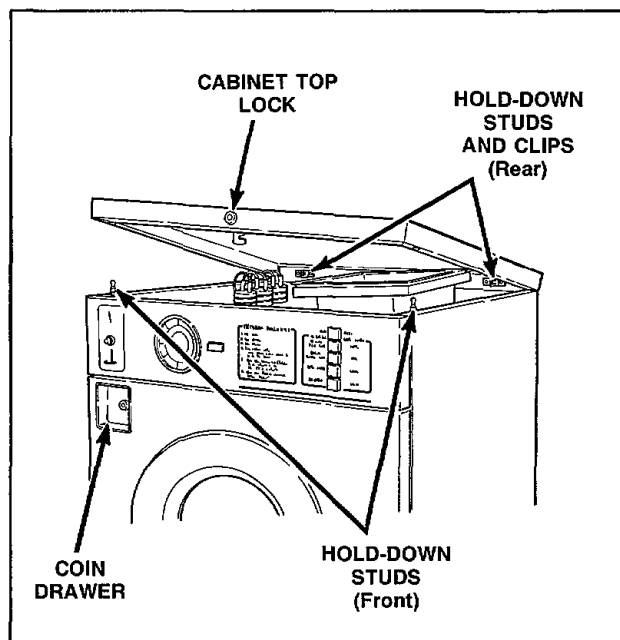

Figure 2
- Insert key into cabinet top lock, turn the key 1/4 turn to the right (clockwise), *Figure 2*.
- Lift up on front of cabinet top to disengage the top from the two cabinet top hold-down studs, *Figure 2*.
- Slide the cabinet top back far enough to disengage the two cabinet top hold-down studs from the clips in the rear cross channel, *Figure 2*. Set cabinet top out of the way.
- Insert key into the cabinet top lock, turn the key 1/4 turn to the right clockwise, *Figure 2*.
channel, *Figure 2*, and set the cabinet top out of the way.
f. Unlock and remove the coin drawer, *Figure 2*.
- e. Insert the key into the cabinet top lock, turn the key 1/4 turn to the right (clockwise), *Figure 2*.
- f. Lift up on front of cabinet top to disengage the top from the two cabinet top hold-down studs, *Figure 2*.
- g. Slide the cabinet top back far enough to disengage the two cabinet top hold-down studs from the two stud clips in the rear cross channel, *Figure 2*, and set the cabinet top out of the way.
- h. Unlock and remove the coin drawer, *Figure 2*.
- b. Insert key into cabinet top lock, turn the key 1/4 turn to the right (clockwise), *Figure 2*.
- c. Lift up on front of cabinet top to disengage the top from the two cabinet top hold-down studs, *Figure 2*.
- d. Slide the cabinet top back far enough to disengage the two cabinet top hold-down studs from the two stud clips in the rear cross channel, *Figure 2*. Set cabinet top out of the way.